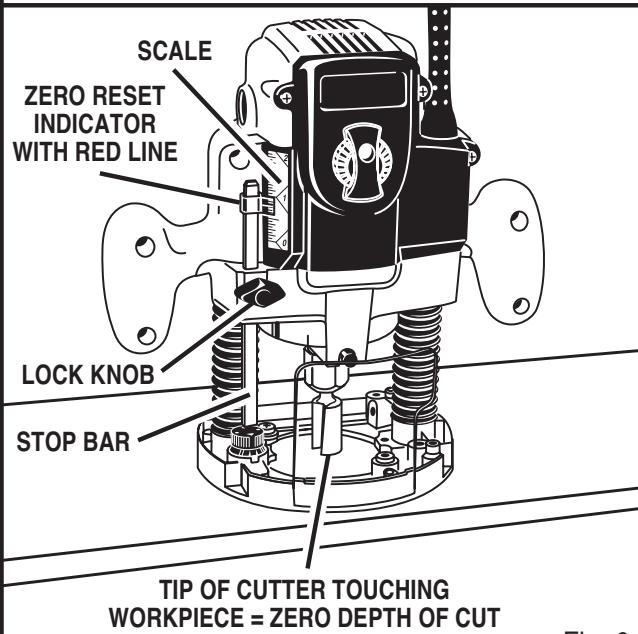

Fig. 6
- Lower router until tip of cutter barely touches flat surface. See *Figure 6*.